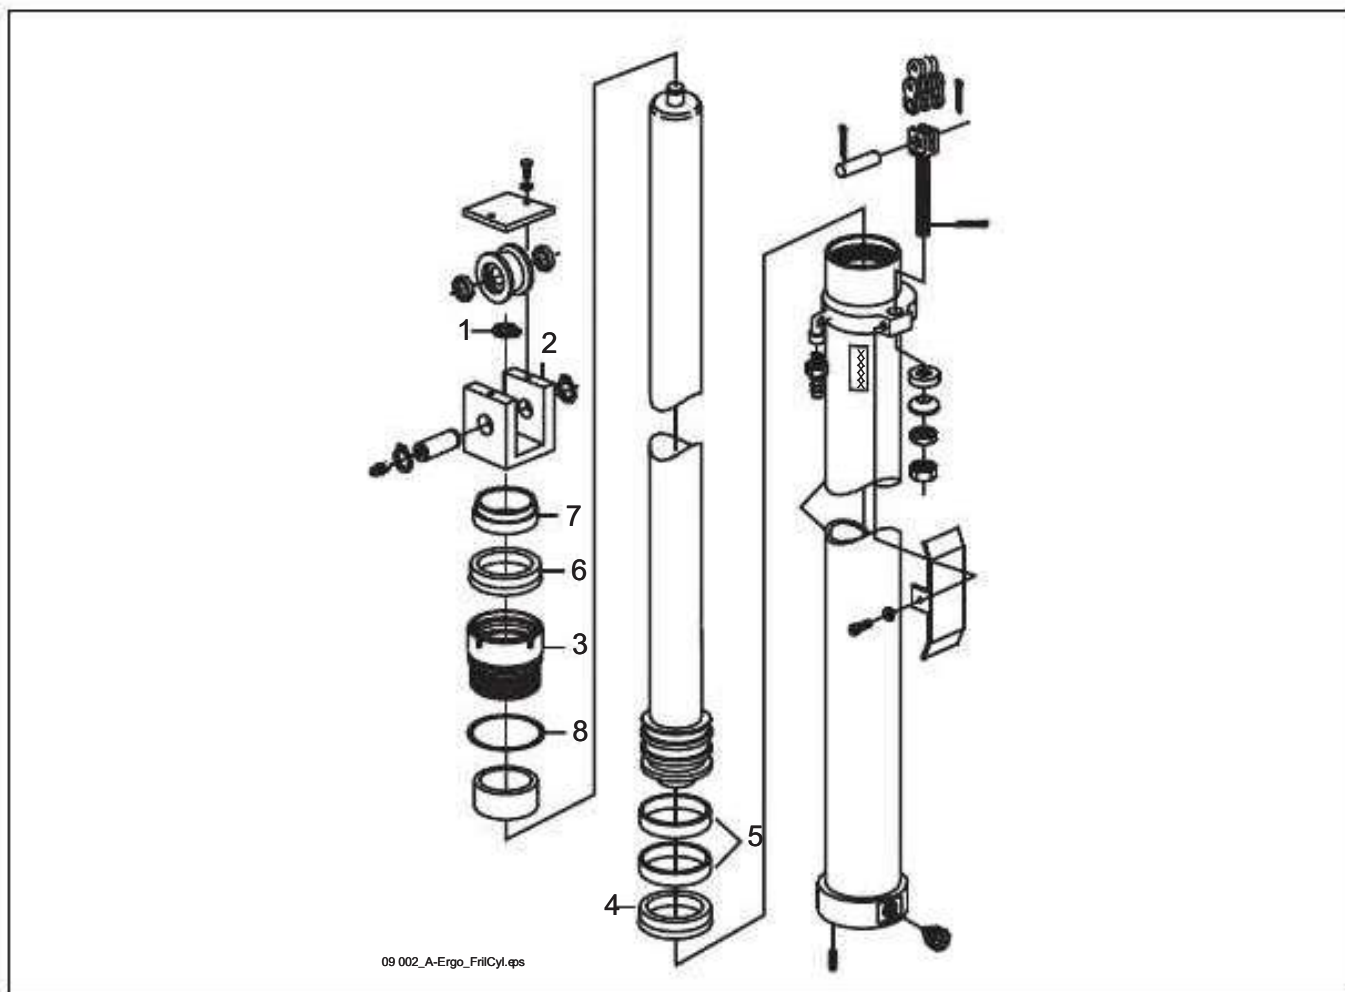

**Figure 9.2** Free-lift cylinder TFV/DTFV
2. Remove the circlip, pos. 1 see Figure 9.2, and remove the yoke, pos. 2.
4. Remove the top nut, pos. 3, with a suitable tool and take it off the piston rod.
6. Remove the seal, pos. 4, and guide rings, pos. 5, on the piston. Use a thin tool that will not scratch.
7. Remove the seal, pos. 6, and scraper, pos. 7, from the top nut and O-ring, pos. 8.